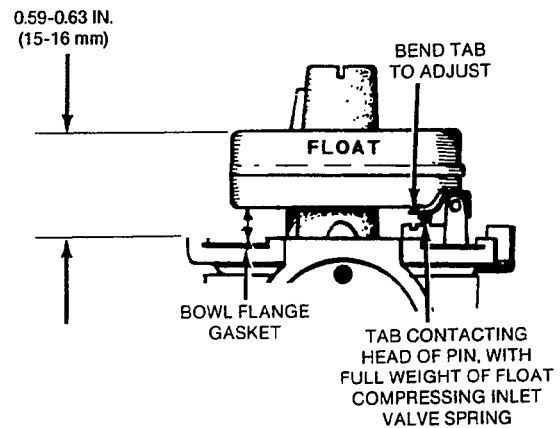

FIGURE 6-22. FLOAT LEVEL
- Invert the float and needle valve assembly. Check the float level as follows: measure from the carburetor housing to the far side (bottom) of the float (see Figure 6-22). The full weight of the float should rest on the needle valve and spring. If the setting is incorrect, remove the float and bend the tab to adjust. Bend the float only at the point indicated.